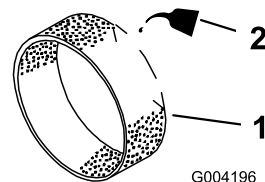

Figure 40
3. Put 3 to 6 cl (1 to 2 fl oz) of oil on the pre-filter (Figure 40).